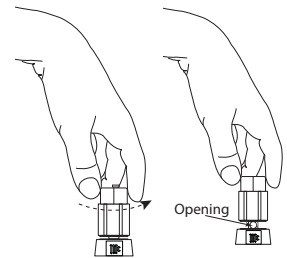

Figure 1 Figure 2
1. Refer to figure 1 to remove the two side screws and save them for possible future use.
1. Rotate the top of the Output Terminal Post counterclockwise until an opening appears. Refer to figures 1 and 2.